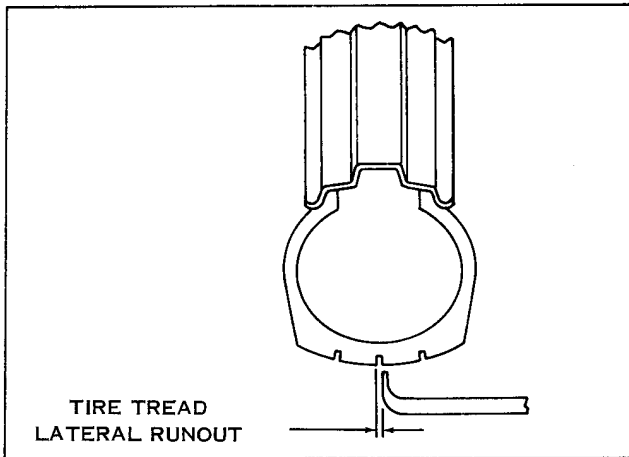

Figure 2-12. Checking Tire Lateral Runout
1. Check runout by turning wheel on axle, measuring amount of sideways displacement from a fixed point near the tire (see Figure 2-12).